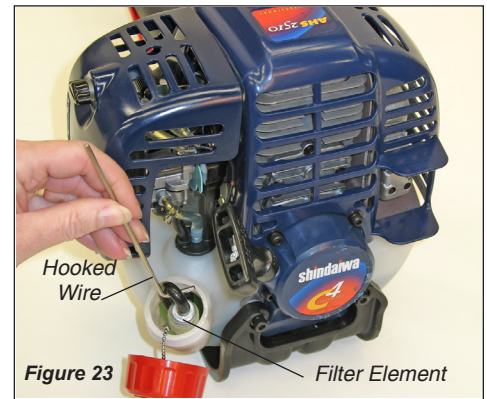

Figure 23
- Use a wire hook to extract the fuel filter from inside the fuel tank (Figure 23). Inspect the fuel filter element. If it shows signs of contamination from debris, replace it with a genuine Shindaiwa replacement fuel filter element. Before reinstalling the filter, inspect the fuel line. If you discover damage or deterioration, the unit should be removed from service until it can be inspected by a Shindaiwa-trained service technician.